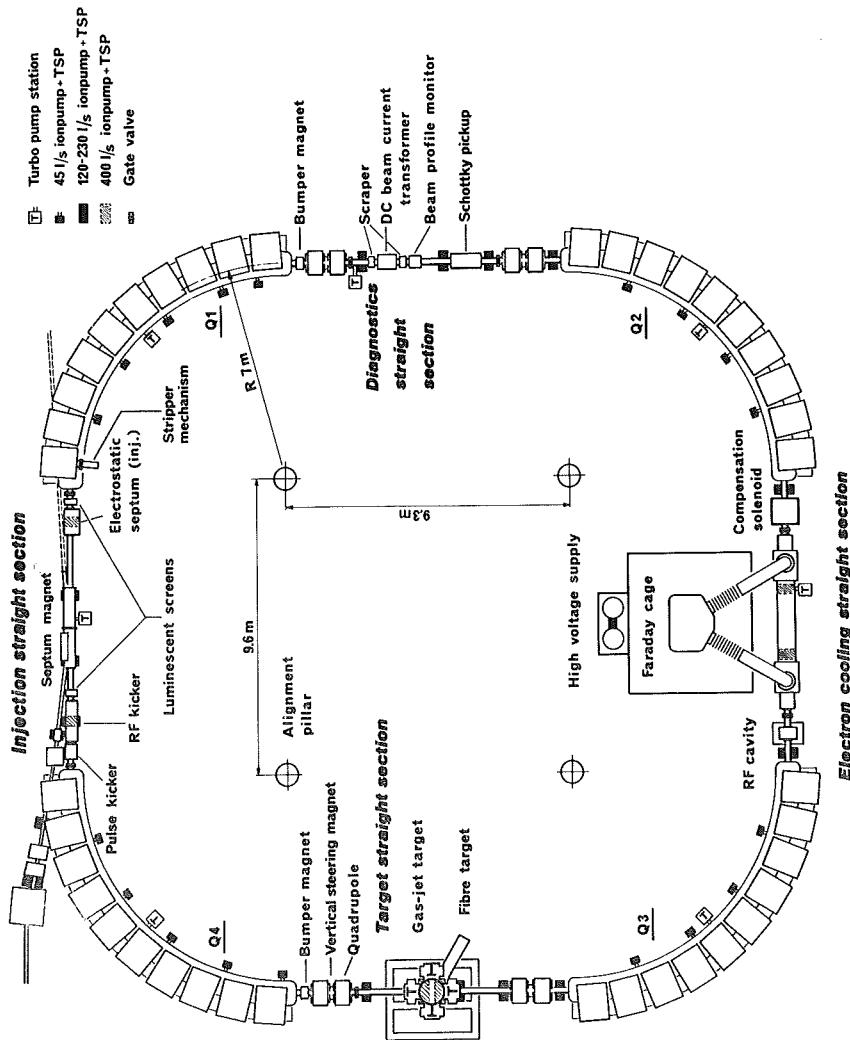

Figure 2. Layout of the CELSIUS ring showing major components and the vacuum pumps.
The 82m circumference CELSIUS ring has 40 dipole magnets, which have been used in the ICE project at CERN¹. As can be seen in figure 2, the magnets are arranged in four 7.0 m bending-radius quadrants with intermediate straight sections of 9.3 and 9.6 m. Injection of ions from the cyclotron will be made by a combination of electromagnetic and electrostatic septa, two bumper magnets, and in the case of stripping injection, a stripper foil in the first magnet of quadrant 1. The diagnostics straight section contains diagnostic elements such as a Schottky pick-up, a DC beam-current transformer and scrapers. The third
straight section will contain the electron cooler, where a maximum 2.8A current of well-defined energy electrons up to 300 keV merges with the ion beam in order to shrink the dimensions and momentum spread of the beam by successive collisions during a large number of revolutions in the ring. This cooler is presently being constructed at the Royal Institute of Technology in Stockholm and is planned to be installed in the ring during 1989. In the same straight section is also the rf cavity for acceleration of the ions to a maximum of 1.36 GeV for protons and 460 MeV/nucleon for charge/mass=0.5 heavy ions. The target straight section will be used for internal-target experiments in heavy- and light-ion intermediate-energy nuclear physics and particle physics. The present target systems are: a cluster gas-jet target and a fibre target consisting of 25 mm long and a few μm diameter fibres of carbon, molybdenum or tungsten. A pellet target of 20 μm frozen hydrogen droplets is required for particle physics experiments. It is however not yet funded. Starting from the septum magnet, a possible future extraction beam line for external-target experiments is also indicated in figure 2.
2.3 Valves and vacuum pumps. There is a fast safety valve in the middle of the injection beam line. Each of the eight sectors of the ring are separated by all-metal VAT series 48 gate valves with ID 63, 100 or 150 mm depending on the maximum beam size at the valve. During pumpdown and bakeout, each of the sectors is pumped by a 170 l/s turbopump backed by a 16 m³/h roughing pump. After bakeout the turbopump is valved off by an all-metal 90° angle valve and the ion pumps take over down to a pressure of 10⁻⁸ mbar, where the titanium sublimation pumps (TSP's) are activated. Except for two pumps at the target chamber, the TSP's are not cooled. The roughly 2 m spaced distributed pump combinations of ion and sublimation pumps are shown in figure 2.